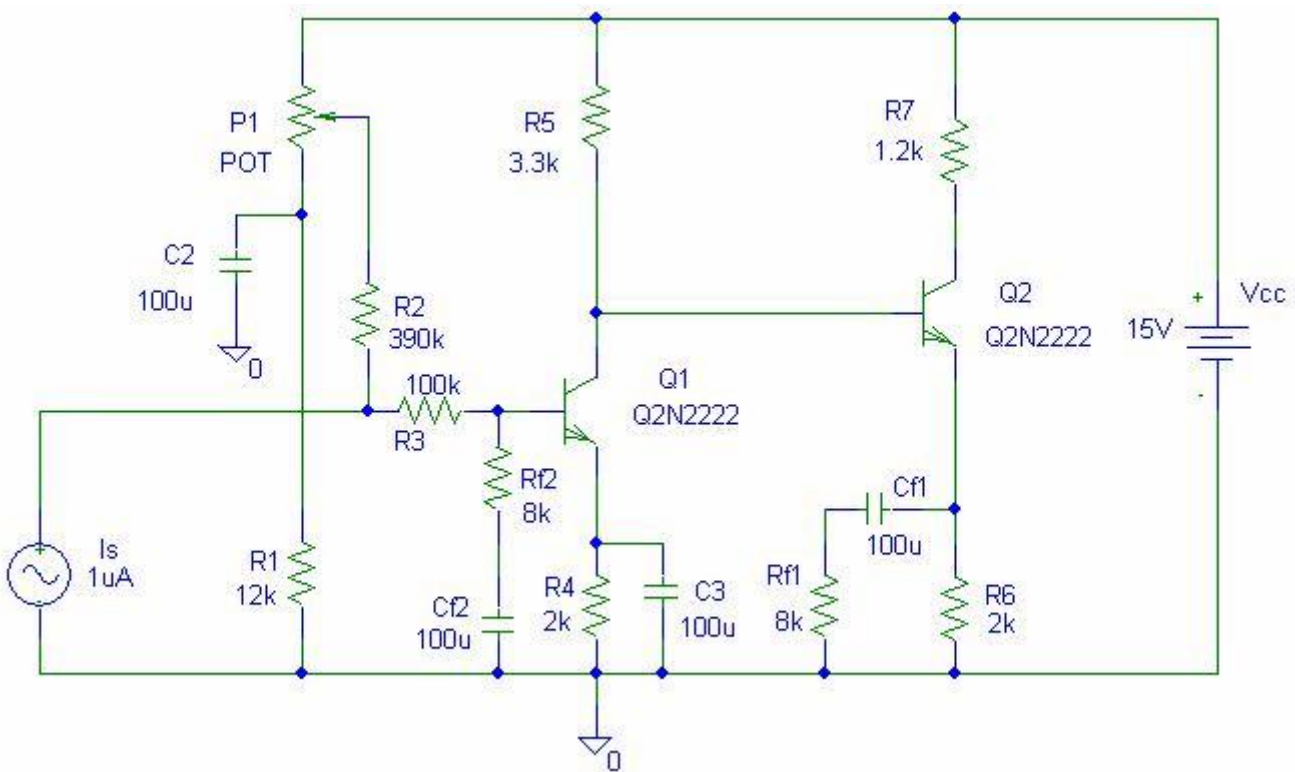

Fig. 4 Transimpedance amplifier circuit with a broken loop using shunt-shunt negative feedback
3.4. Draw the circuit corresponding to the transimpedance amplifier circuit in the open loop configuration (Figure 4) using the Schematics program.